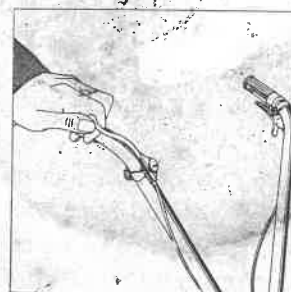

Fig. 3
- 4 Open throttle control slightly (Fig. 3).